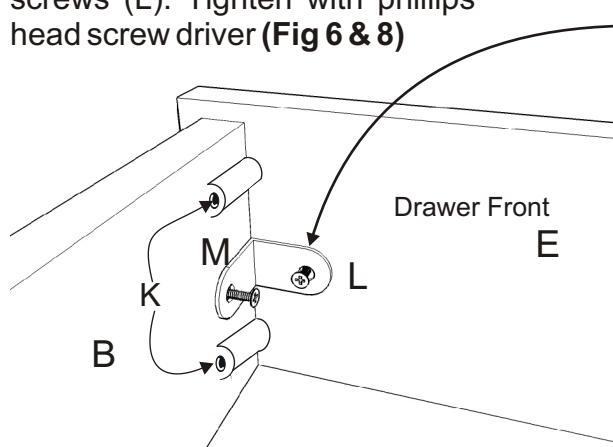

Fig. 6
Attach the L-Bracket (M) onto the back of the front drawer face (E) (Note pilot holes) and onto the right and left drawer sides B & C (Note pilot holes) using the screws (L). Tighten with phillips head screw driver **(Fig 6 & 8)**